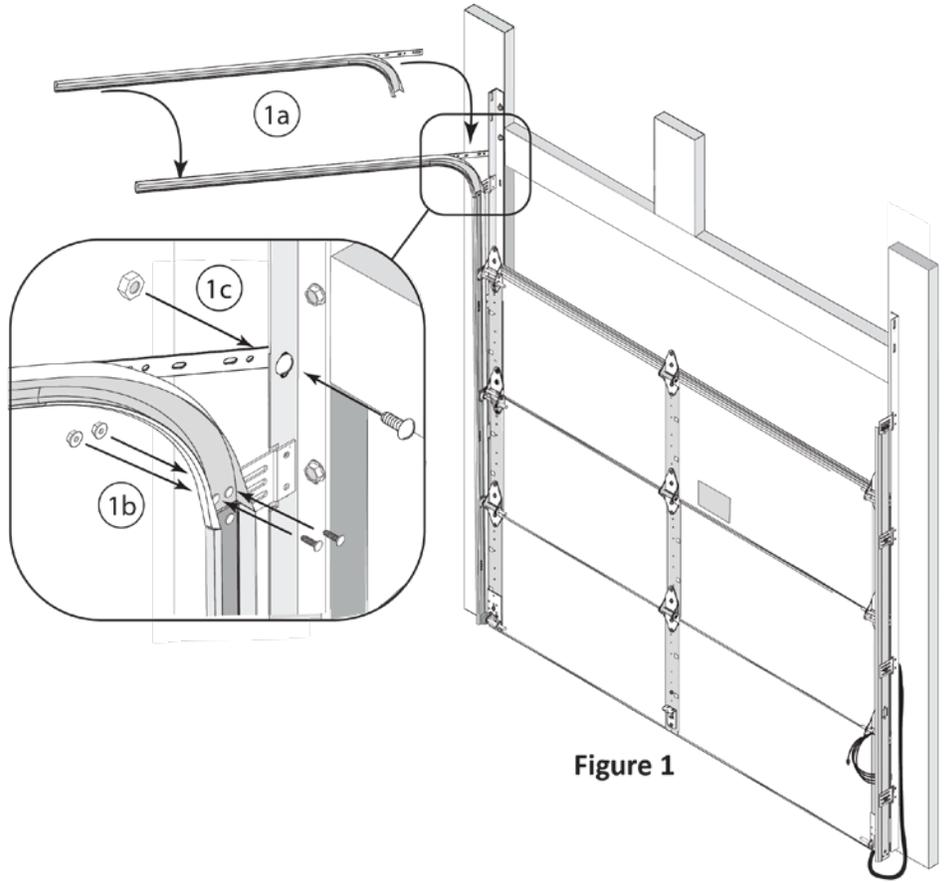

Figure 1
**Step 1:** Align the two Split Solid shafts (with Key Ways), with both sides of the Torsion Shaft Coupler (Figure 1), and slide them in until they touch.
**Step 2:** Insert (3) 3/8" -16 X 1-1/2" Hex Head Bolts through both sides of the Coupler, and loosely fasten with (3) 3/8"-16 Hex Head nuts.
**Step 3:** Slide the (2) 1/4" x 1/4" x 3" Bent Keys, into the Key Way of both shafts and into the Key Way of the couplers.
**Step 4:** Loosely tighten the (2) Set Screws in each side of until finger tight.